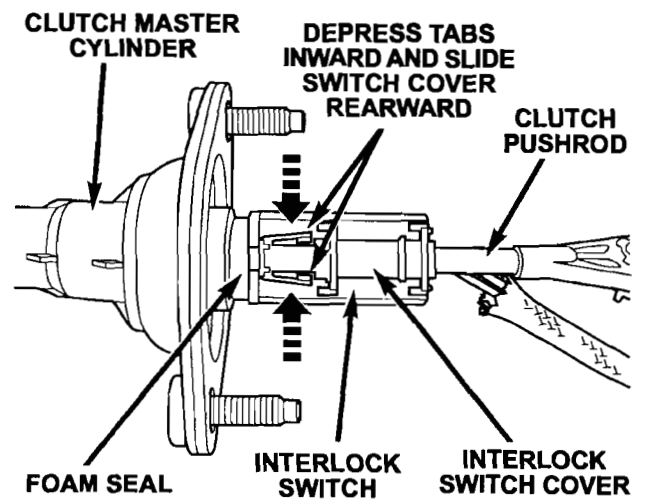

Figure 2
**NOTE:** In Figures 2 through 4 the clutch master cylinder was removed from the vehicle for photographic purposes only. Do not remove the clutch master cylinder from the vehicle. All repair procedures can be performed with the clutch master cylinder installed in the vehicle.
2. Remove the interlock switch cover by depressing the cover tabs inward and sliding the cover rearward (Figure 2). Discard the original switch cover.